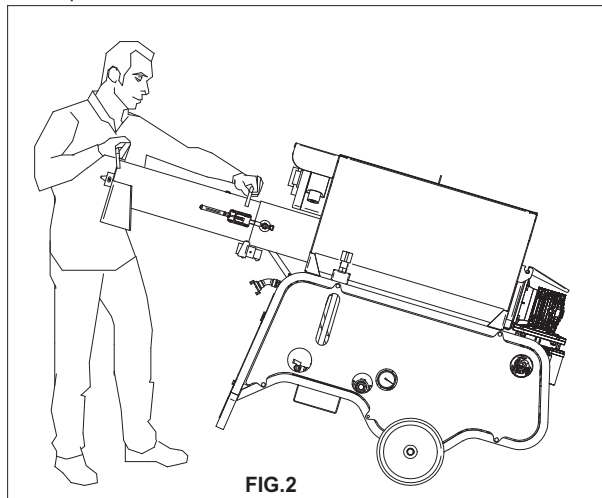
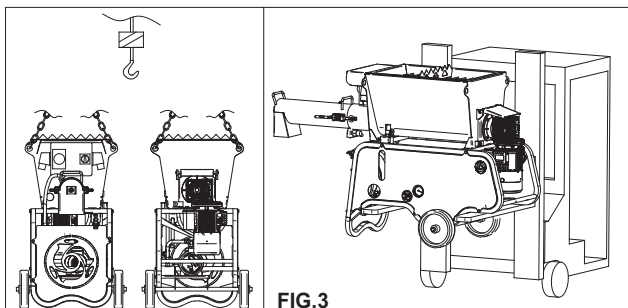

FIG.2
FIG.3
8. TRANSPORT (see fig.2 and fig.3)
Lift the mixer by means of the relative handles (fig.2) and push in the required direction.
- CAUTION! Never use points other than as specified in figure 3 to lift the machine
To lift the machine, use the four specific attachment rings (fig.3).